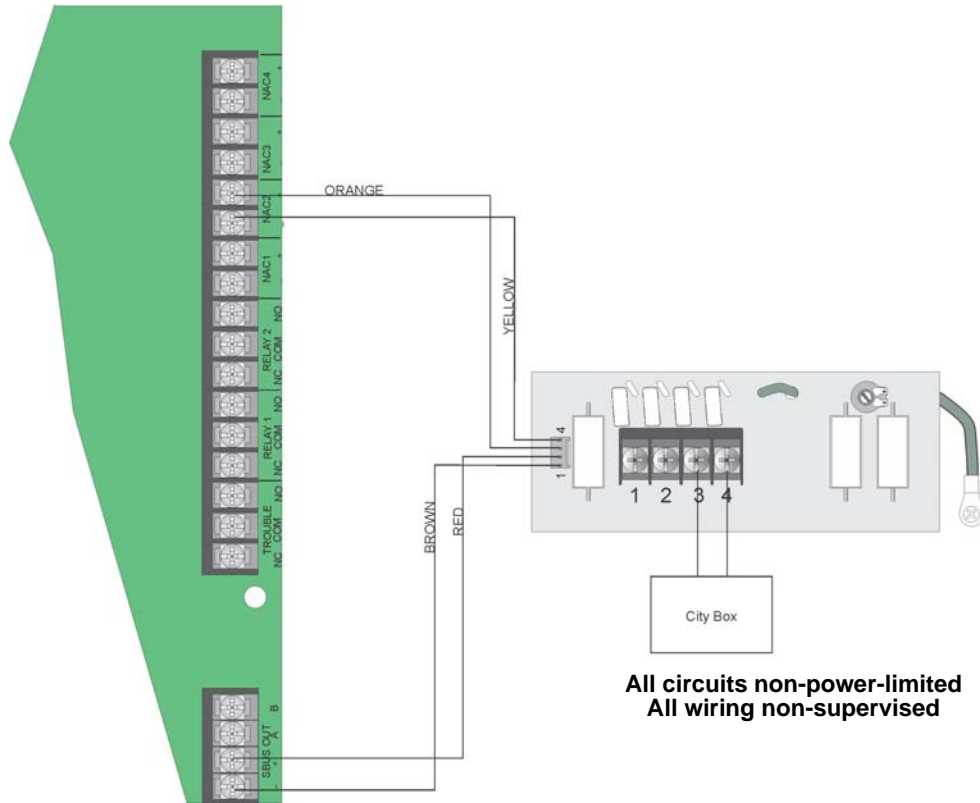

Figure 4.55 City Box Connection
- Wire the 5220 to the control panel as shown in Figures 4.55. This drawing also shows how to connect the city box coil to terminals 3 and 4 on the 5220.